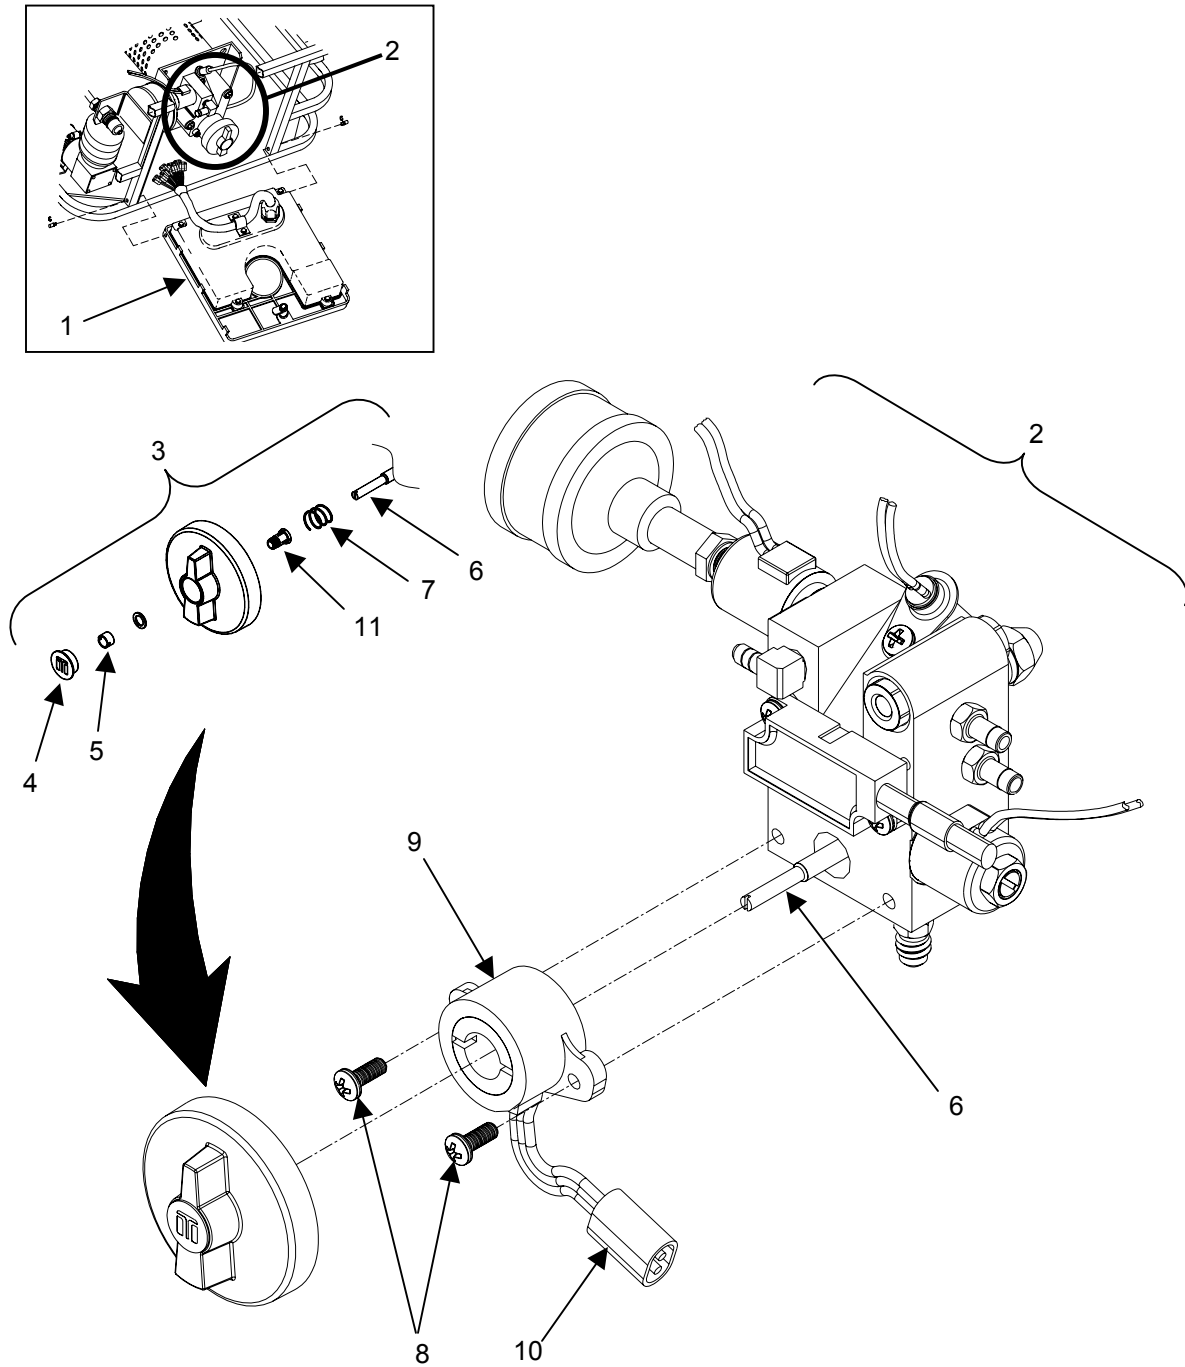

Figure 12. Replace the Feedback Potentiometer (MBU only)
2. Open control panel (**figure 12, item 1**) to gain access to the fuel delivery block assembly (**figure 12, item 2**).
3. To remove the control knob assembly (**figure 12, item 3**), remove the cap (**figure 12, item 4**), and loosen the retainer nut (**figure 12, item 5**) ONLY enough to release the knob from the needle valve shaft (**figure 12, item 6**). Do not disassemble the knob components.
4. Remove the control knob assembly (**figure 12, item 3**) taking care not to drop the spring (**figure 12, item 7**) located behind the knob.
5. Remove the two screws (**figure 12, item 8**) retaining the feedback potentiometer assembly (**figure 12, item 9**) to the fuel delivery block (**figure 12, item 2**).
6. Disconnect the feedback potentiometer wiring harness (**figure 12, item 10**) by separating the connector at the end of the harness.
7. Remove the feedback potentiometer assembly (**figure 12, item 9**).
8. Install a new feedback potentiometer assembly (**figure 12, item 9**) on the fuel delivery block (**figure 12, item 2**).
9. Secure the two screws (**figure 12, item 8**) with a cross tip screwdriver.
10. Reconnect the feedback potentiometer wiring harness assembly connector (**figure 12, item 10**).
11. Using a small flat tip screwdriver, turn the pot counterclockwise until the slots are at the 3 o'clock and 9 o'clock positions (**figure 12, item 9**).
12. While holding the control knob in the 12 o'clock position, use a screwdriver placed in the slot of the retainer nut to hold it steady, press new control knob assembly (**figure 12, item 3**) onto the needle valve shaft (**figure 12, item 6**).
13. Press the Control Knob until the collet (**figure 12, item 11**) on the back of the Control Knob is firmly engaged on the needle valve shaft (**figure 12, item 6**).
14. Secure the control knob assembly (**figure 12, item 3**) by tightening the retainer nut (**figure 12, item 5**) with a screwdriver.
15. Replace the cap (**figure 12, item 4**).
16. Close the control panel (**figure 12, item 1**).